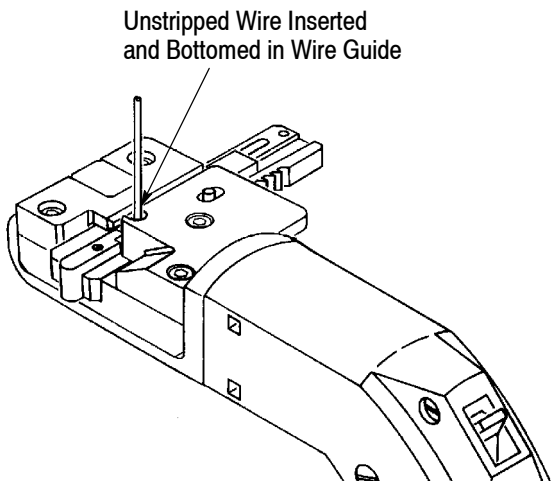

Figure 4
3. Insert an *unstripped* wire into the wire guide until the wire bottoms, making sure wire is centered in the slot. See Figure 4.